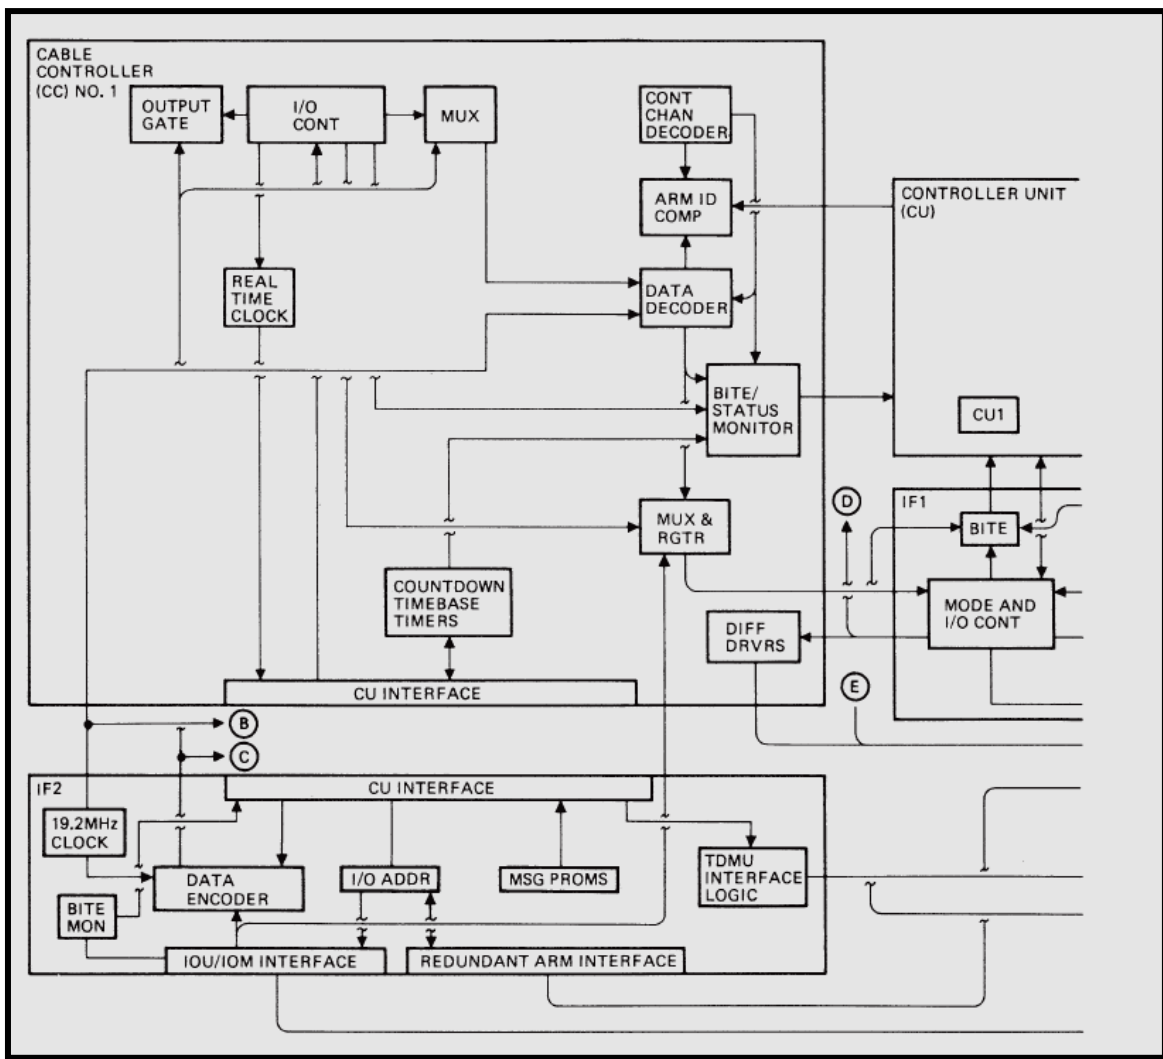

Figure 8-23. ARM Block Diagram (Sheet 1 of 2).
An ARM (Figure 8-23) (LHD only) houses a minimum of 6 circuit cards (no optional circuit cards installed) and a maximum of 14 circuit cards (all optional circuit cards installed). The 8 optional circuit cards allow for expansion of the ARM (LHD only). The 6 required circuit cards consist of 2 cable controller cards, a control unit (CU) comprised of CU1 and CU2 controller unit cards, and 2 interface cards (IF1 and IF2). The 8 optional circuit cards consist of 3 RF transceivers, one cable controller, and 4 IOMs. Four of the optional cards (exclusive of the IOM cards) would be used as necessary in a DMS configuration that requires the ARM to interface with the RF Bus(es).